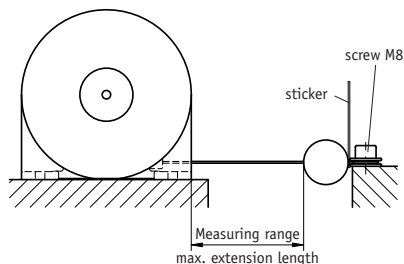

Fig. 2: Measuring range
- Fix the wire end, eg. by using a screw M8 (fig. 2).
The sticker on the wire end should be attached visibly at the mounting place (fig. 2).